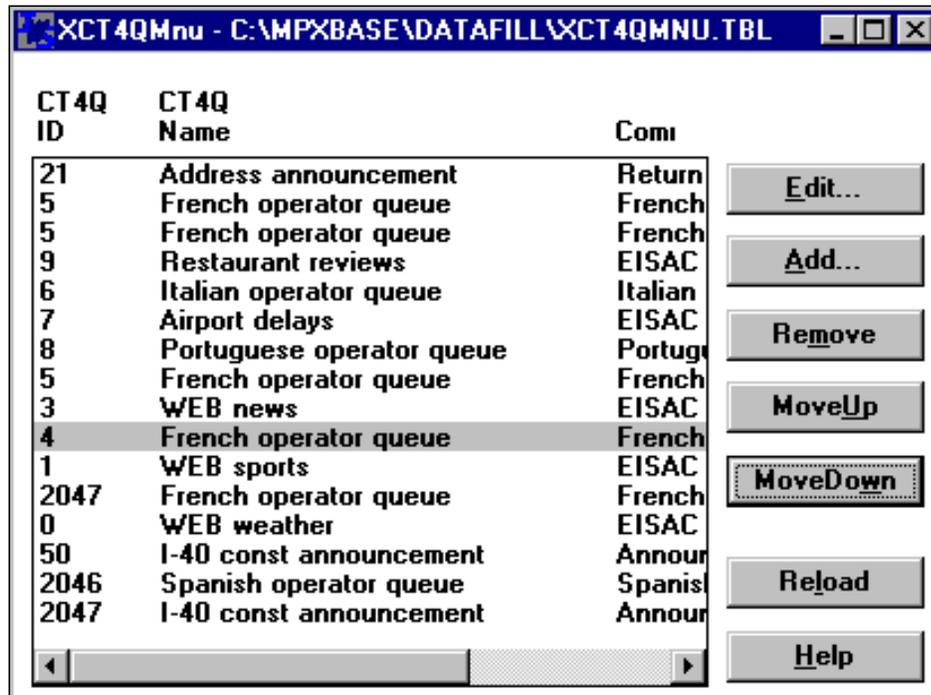

FIGURE 121. Example of an XCT4QMNU dialog box
4. A list of table files displays. Select file XCT4QMNU from the listing. The dialog box shown in Figure 121 appears.
Note that Figure 121 shows duplicate entries: CT4Q ID 5, “French Operators Queue” appears twice in the listing. The CT4Q IDs listed in table XCT4QMNU are pulled from table XCT4Q. When those IDs are referenced in table XCT4QMNU, they are allowed to be listed more than once. This enables the use of multiple entries of the NIL value (2047). In addition, operators may find it useful to have the same menu item appear on more than one page, to avoid some paging back and forth.